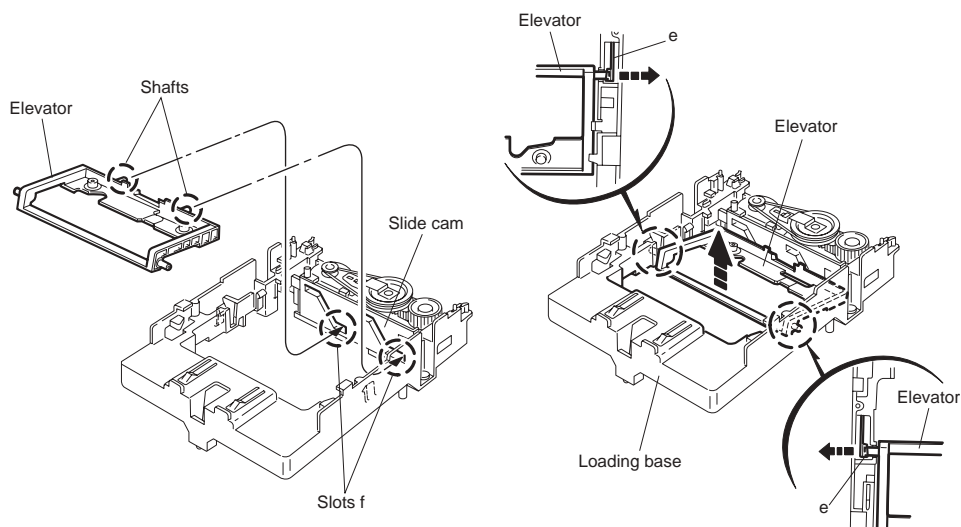

Fig.2-13
2.2.4 Removing the elevator (See Fig.2-13)